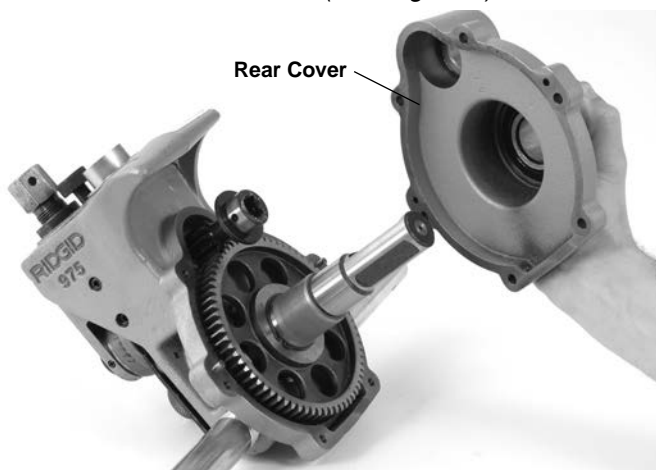

Figure 1 – Removing Rear Cover
2. Remove the rear cover (See Figure 1).